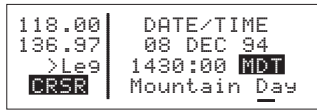

Figure 4-194
7. Press **ENT** to start the clock running (figure 4-194). Note that the seconds will reset to zero when you do this.